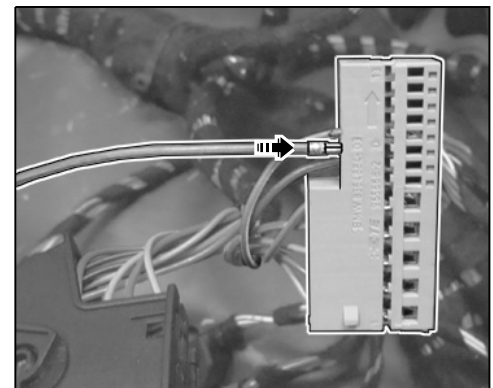

Figure 17
- 2.4.3 Insert socket contact ⇒ *Figure 17 -arrow-* into chamber 8 of the grey plug socket.